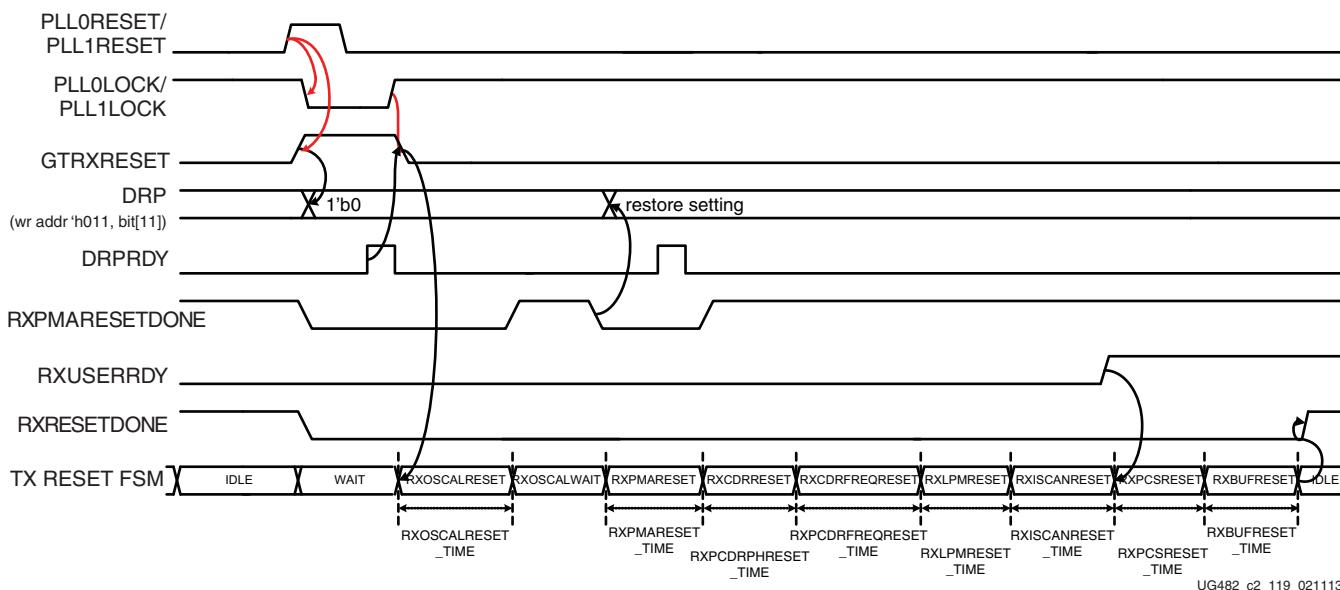

Figure 2-19: GTP Transceiver Receiver after FPGA Configuration
When users want to issue an GTRXRESET upon configuration, the steps in Figure 2-19 should be performed.
Notes relevant to Figure 2-19:
2. The sequence of events in Figure 2-19 is not drawn to scale.
- Note:** It is recommended to use the associated PLLLOCK from either the PLL0 or PLL1 to release GTRXRESET from High to Low as shown in Figure 2-19.